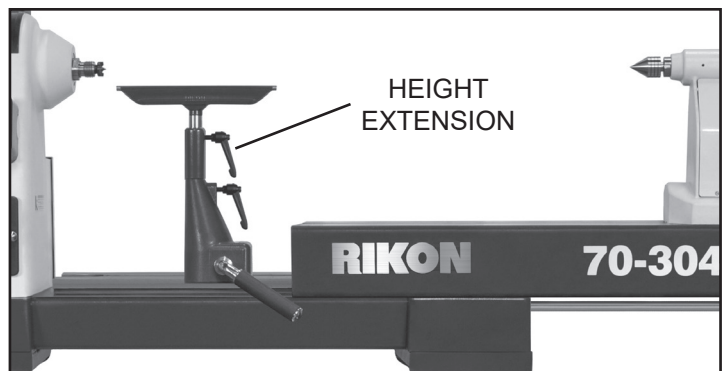

FIG. 23
**Option 1:** Included with the lathe is the Tool Rest Height Extension (K, #A12, #70-959). When the tool rest base is moved down onto the lower bed, install the tool rest height extension to raise the base 4" for holding your tool rest at the proper level for turning. Figure 23.